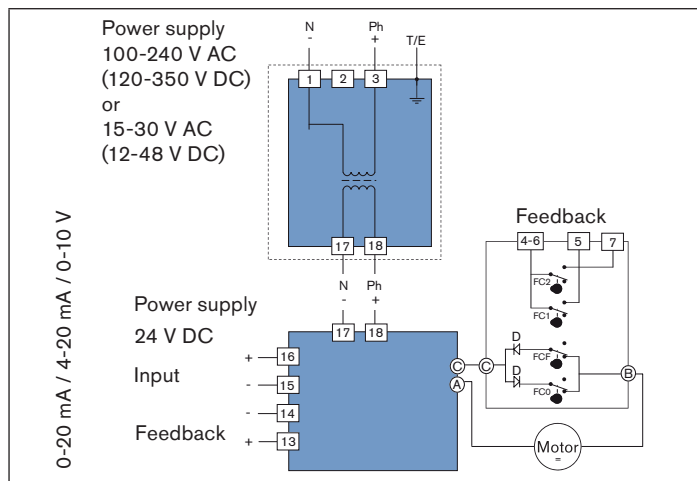

Fig. 17: Circuit diagram
- Connect cable according to the circuit diagram to the terminal strip (pos. 14, “Fig. 1” and “Fig. 2”) of the power supply card (“Fig. 17”).
- Connect cable to the terminal strip (pos. 12, “Fig. 1” and “Fig. 2”) according to the schematic (“Fig. 17”).